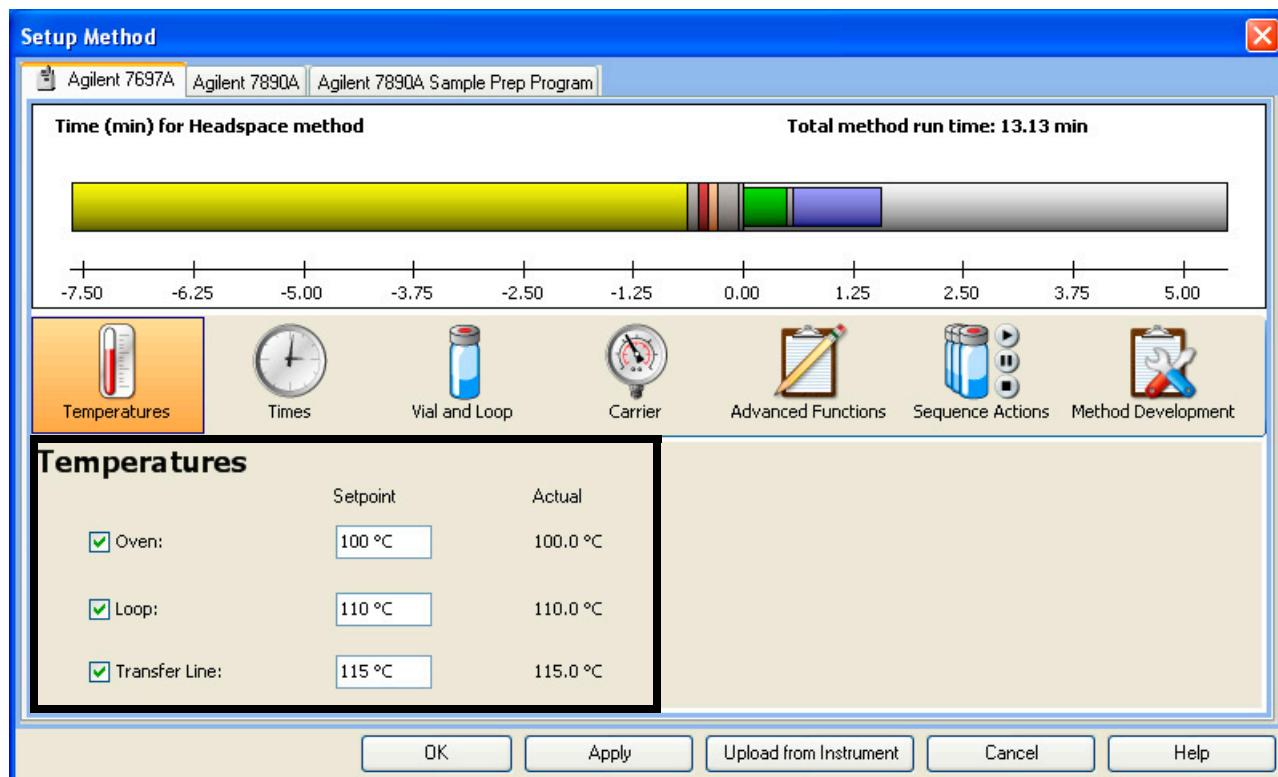

Figure 14 Setting the temperature parameters
- 3 Select the **Temperatures** icon and set the parameters shown in Figure 14.